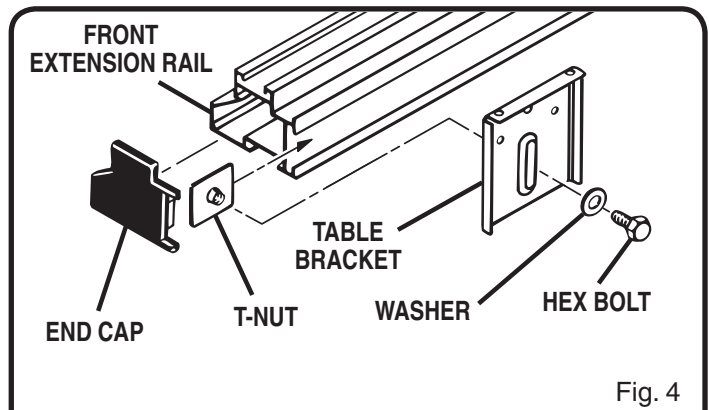

Fig. 4
- Remove end caps from right end of front rail on your BT3000 table saw. See Figure 4.
- Space table brackets on each of the four corners so that they are approximately 6 in. from the ends of extension rails. See Figures 4 and 5.